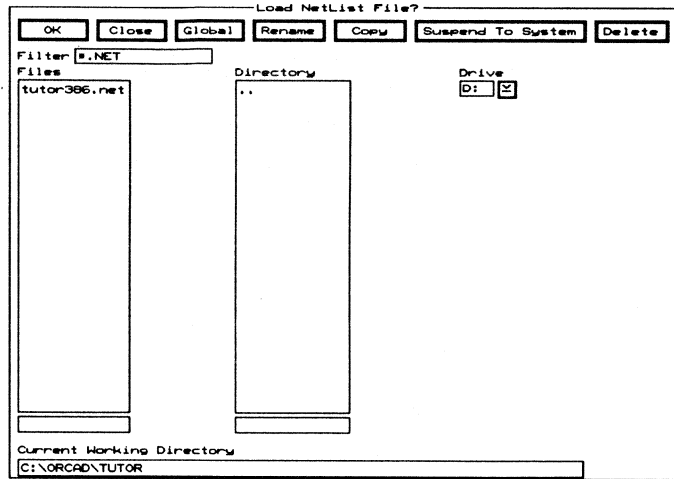

Figure 6-1. The Load Netlist File dialog box.
5. Select **Block End**. The **Load Netlist File** dialog box displays (figure 6-1).